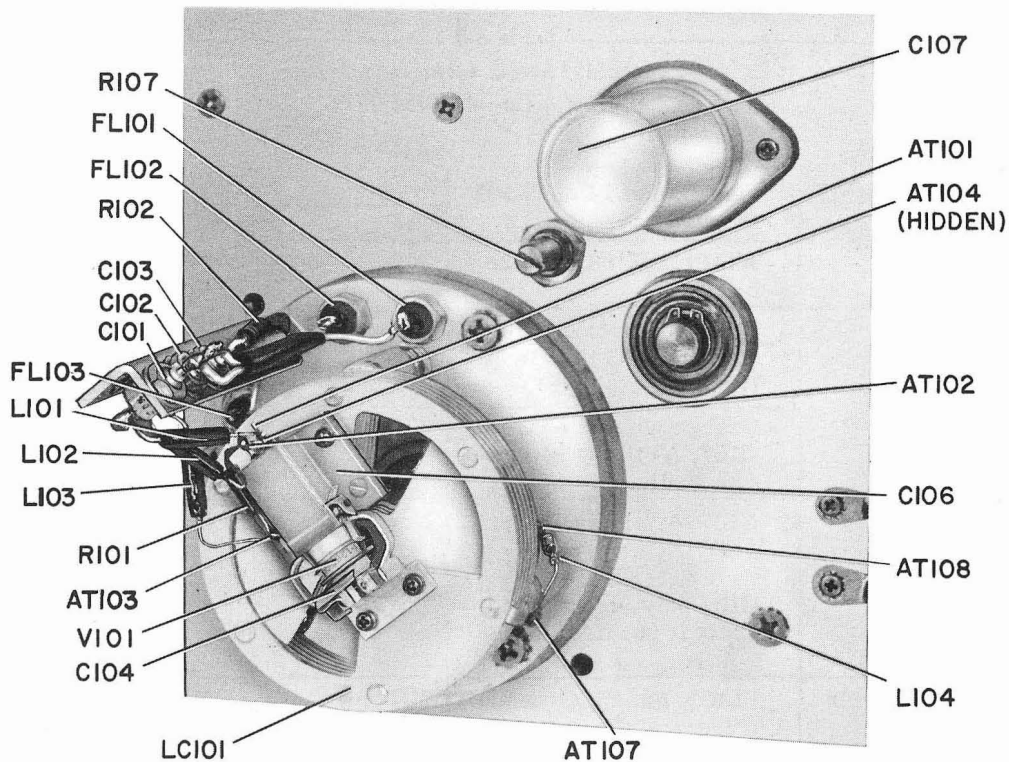

Figure 6-3. Interior rear view of Type 1362 Oscillator with shield cover removed.
If the 1362 Oscillator performs outside of specification, as determined by use of paragraph 6.3, the procedures below can be used to isolate the trouble to a defective assembly or part. Suggestions for trouble analysis are given in Tables 6-2 and 6-3. The former is based on operating parameters, the latter on cold resistances. (Refer to Figures 6-3 and 6-4 and to the schematic diagram, Figure 6-8, at the end of the book.) Instructions for adjustment and repair are given in subsequent paragraphs of Section 6.
g. Connect a 0-50 milliammeter at the MOD jack; apply power using a 1267 Power Supply; set the dial to 920 MHz; connect a 50-ohm load to the output connector; push the attenuator in; allow 5 minutes for warm-up. Adjust R107 with a screwdriver (refer to Figure 6-3) for 30 mA \pm 3 mA plate current. (The current may be set higher to provide more rf power output at the expense of reduced tube life; conversely, for economy, refer to paragraph 6.9.)